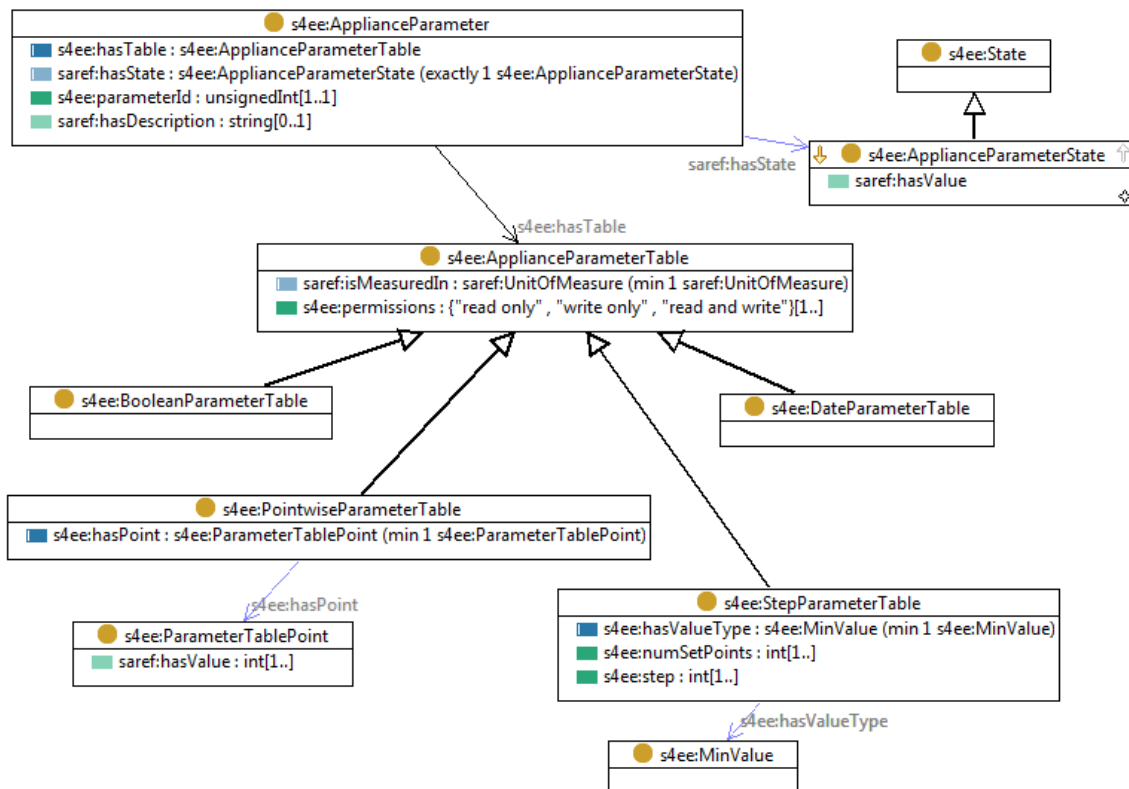

Figure 9 – The `s4ee:ApplianceParameter` class and its properties
- it has a list of zero or more parameters (`s4ee:ApplianceParameter` class in Figure 9), each representing a particular function mode such as “Temperature”, “Spin”, “Prewash” or “Iron Min”;